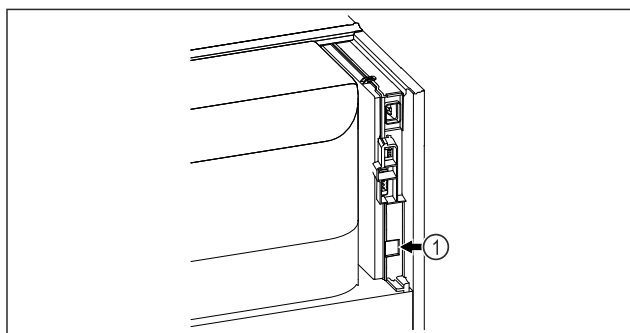

Fig. 184
- ☐ SmartModule Fig. 184 (1) is in use.